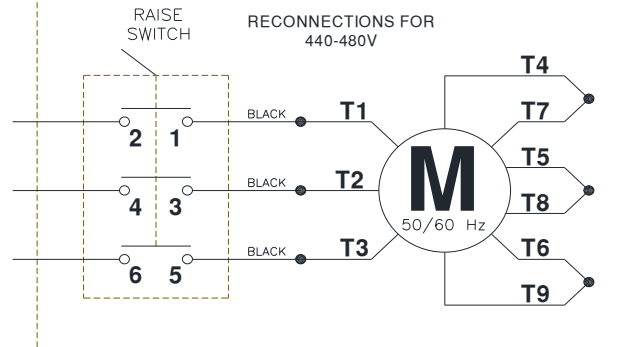

Fig 12 –Electrical Wiring Diagram
- 36) Refer to **Fig. 12 Wiring Diagram** for all steps under this heading.